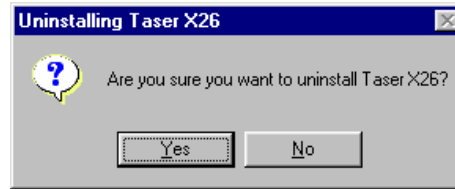
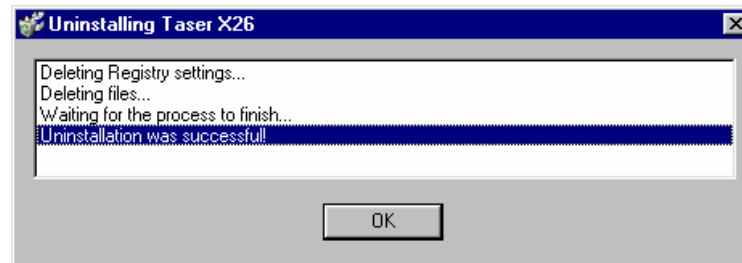

Figure 32
Figure 33
9. Click **Yes** on the **Uninstalling Taser X26** confirmation panel (Figure 32) and click **OK** when the uninstall is finished (Figure 33).